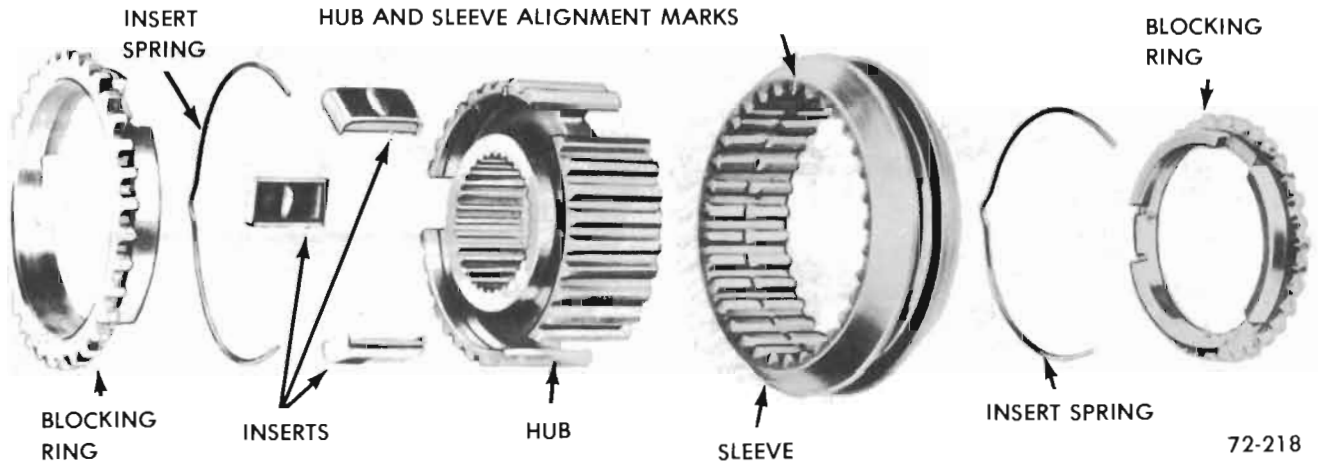

Figure 72-86 - Exploded View of Second-Third Synchronizer
NOTE: Make certain that all three insert slots are fully covered. See Figure 72-86.
b. With alignment marks on hub and sleeve aligned, start hub onto sleeve. See Figure 72-86.
c. Place three inserts, in the slots, on top of retaining spring. See Figure 72-86. Push assembly together.
d. Install remaining insert spring so that spring ends cover same slots as does other spring. See Figure 72-86.